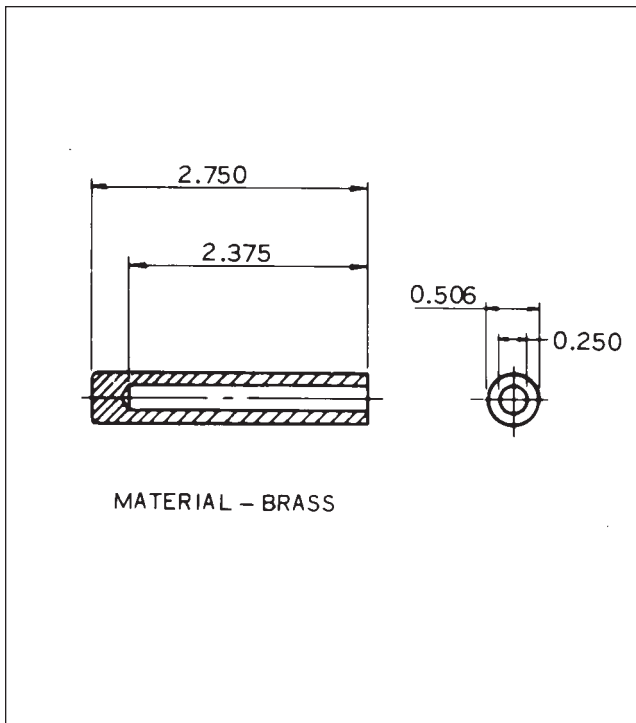

Figure 74-15. Ferrule Seating Tool
- L. Pull the lead assembly through cable outlet plate until cleaned braid binds in the outlet well. Position the Bendix 11-7074 Ferrule Seating Tool (Figure 74-15) over the insulation and firmly seat the ferrule by tapping the seating tool with a hammer or by using an arbor press.